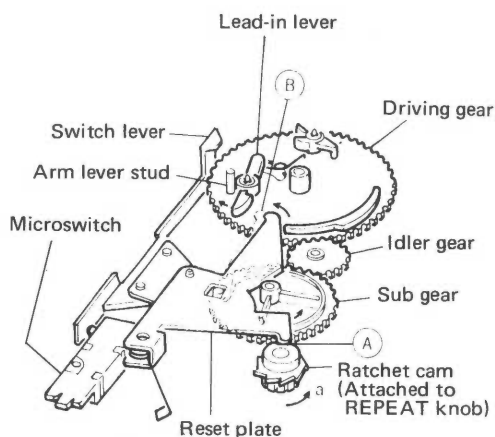

Fig. 14
As shown in Fig. 14, when the ratchet cam is turned in the direction of arrow (a) (toward the position "R" on the REPEAT knob), the part (A) of the reset plate is pushed away by the outer circumference of the ratchet cam until its part (B) is moved as far as the dotted line. Thus, the lead-in lever on the driving gear is always returned by the reset plate and pushes the arm lever stud back to bring the arm lever to the lead-in position, and the record is played again. At the "R" position the hook on the sub gear passes over the toothless section of the ratchet cam, so the cam does not turn.
Thus the cam turns one step for each cycle. After completion of the specified number of cycles the ratchet cam and hook do not engage, and the reset plate returns to the position as shown in Fig. 14. The tonearm is returned to the arm rest, and the power is switched off when the switch plate presses the microswitch.